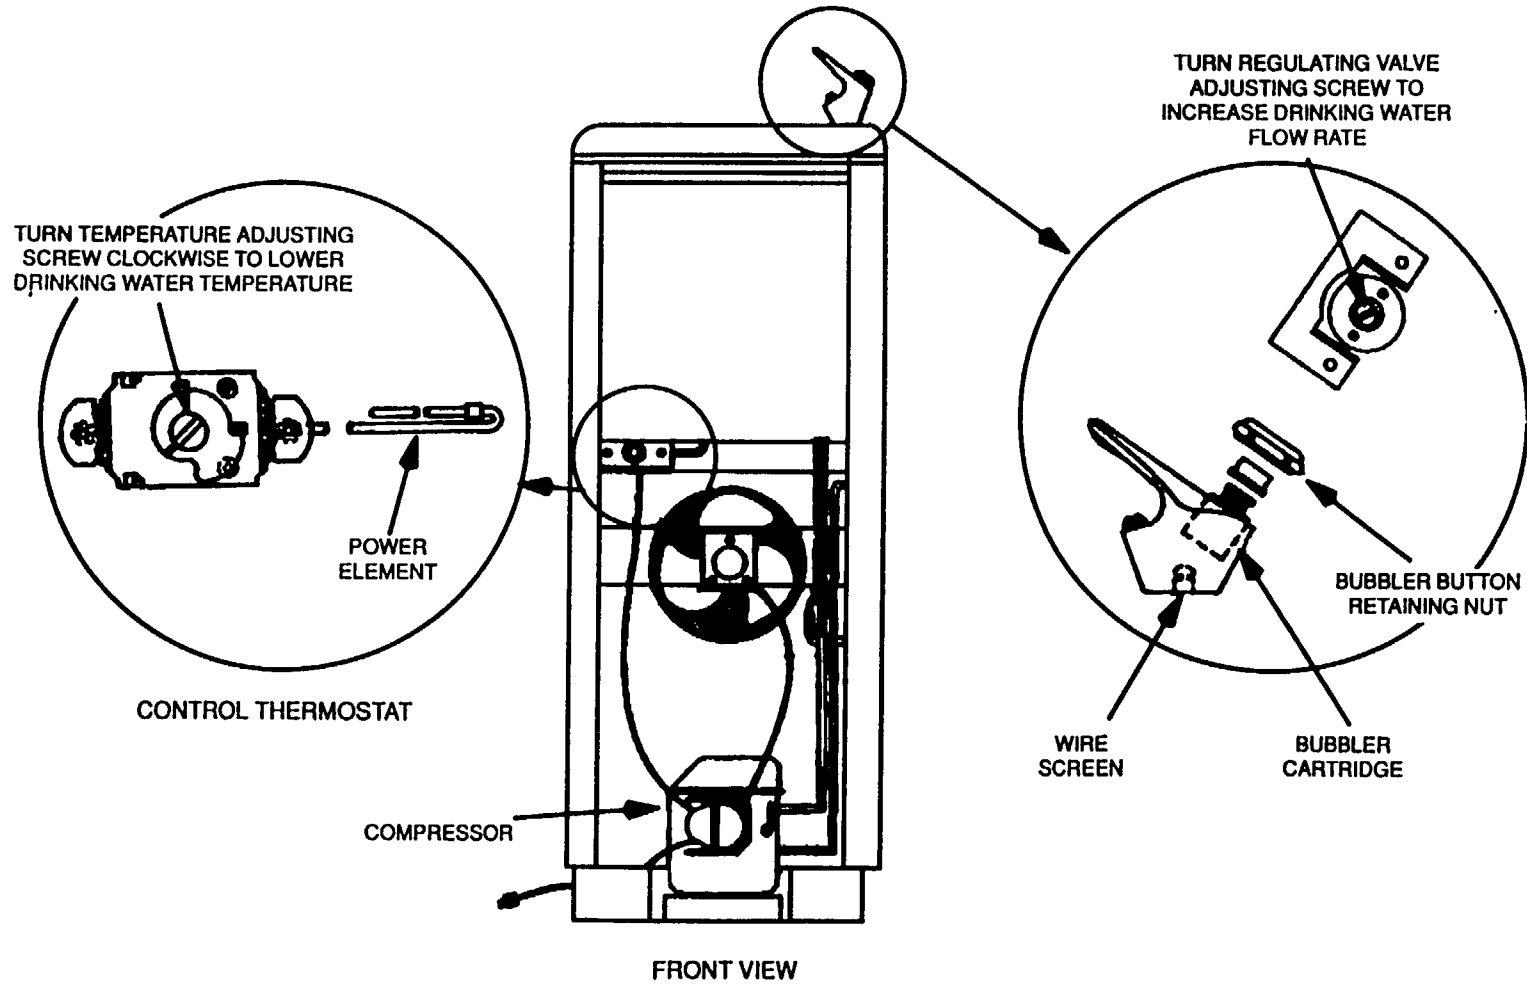

Figure 2-4. Drinking Fountain Adjustments
- a. Drinking water temperature adjustment. Temperature of the drinking water bubbler stream is regulated by a thermostat in the compressor compartment (Figure 2-4). It is set at the factory to keep the temperature of drinking water at 50/F. If cooler or warmer water is desired, turn the thermostat adjusting screw clockwise to lower (to 47/F minimum) and counterclockwise to raise (to 55/F maximum) temperature.
- b. Drinking water flow adjustment. Drinking water bubbler stream is controlled by a pressure regulating valve (Figure 2-4). Normally, only an initial adjustment is required, but the bubbler stream may be adjusted if desired. First make sure the drinking water system is operating normally, then remove bubbler button retaining nut to expose valve adjusting screw. Turn screw clockwise to increase flow and counterclockwise to decrease flow.